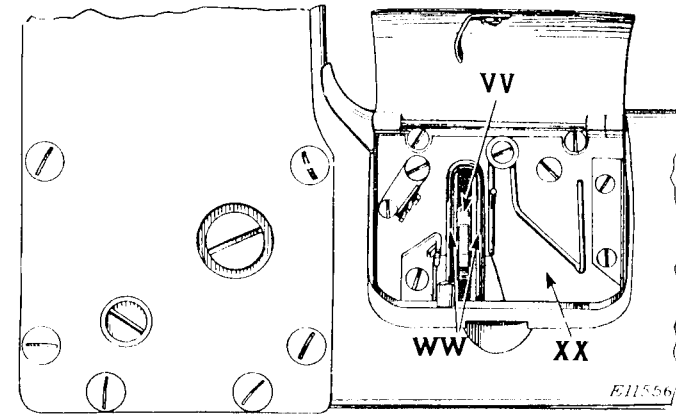
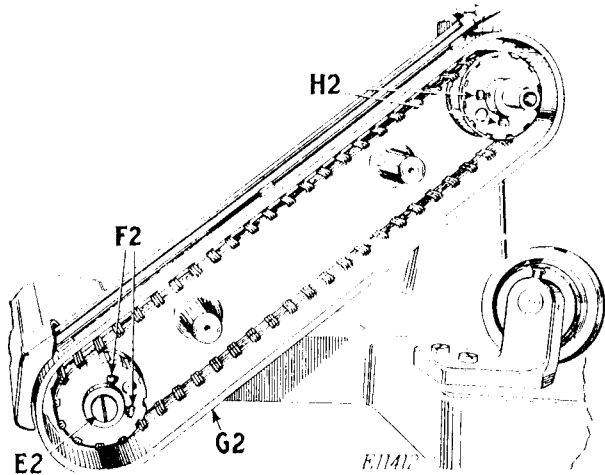

Fig. 19
Fig. 20
If the belt has been removed or disturbed, the lower shaft must be timed by loosening the two set screws and the cap screw (E2 and F2, Fig. 20) in the lower belt pulley, and turning the lower shaft until the loopers are correctly timed with the needles. Tighten the cap screw (E2) first, then the two set screws.
The straight part of the take-up (VV, Fig. 19) should touch the thread between the take-up stripper wires (WW) just as the loopers
If the upper pulley is removed or disturbed, it should be reset as follows when replacing the belt. Turn one of the set screws (H-2, Fig. 20) lightly into the groove in the arm shaft, then place the belt on the pulleys and hang the belt guard cover over the shaft. Place the balance wheel on the shaft and turn one of the set screws in the belt groove lightly into the groove in the shaft. Insert and tighten the arm shaft oil reservoir to draw the pulley against the ball bearing. Tighten the two set screws (H-2) in the upper pulley and also those in the belt groove of the balance wheel. The belt guard cover may be swung out of the way without removing the balance wheel, in order to reach the lower pulley for timing the lower shaft.
Remove the arm shaft connection belt, the belt pulleys and the belt guard (G2, Fig. 20). Remove the horizontal thread tube plate at the front of the bed, and loosen the set screw underneath it which holds the right ball bearing case. Remove the take-up stripper plate (XX, Fig. 19) and loosen the set screw in the take-up (VV, Fig. 19). Loosen the two set screws in the intermediate ball